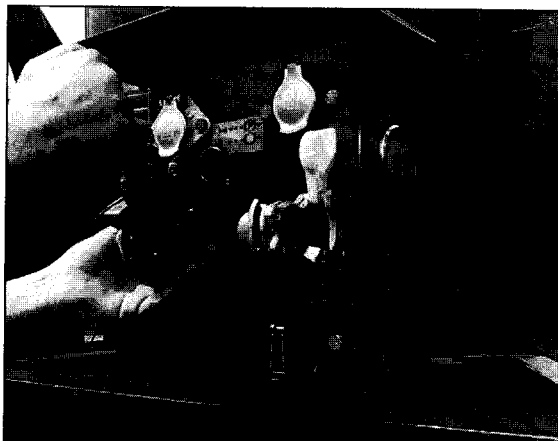

Fig. 26-1
3. *Disconnect the brake lines (Fig. 26-1)*